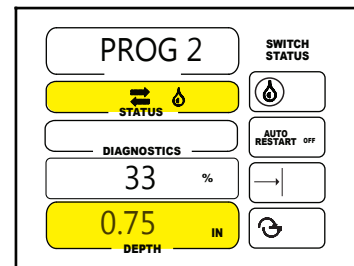

Figure 56-3
3. Set water on and depth of water for the sector. See figure 56-3.